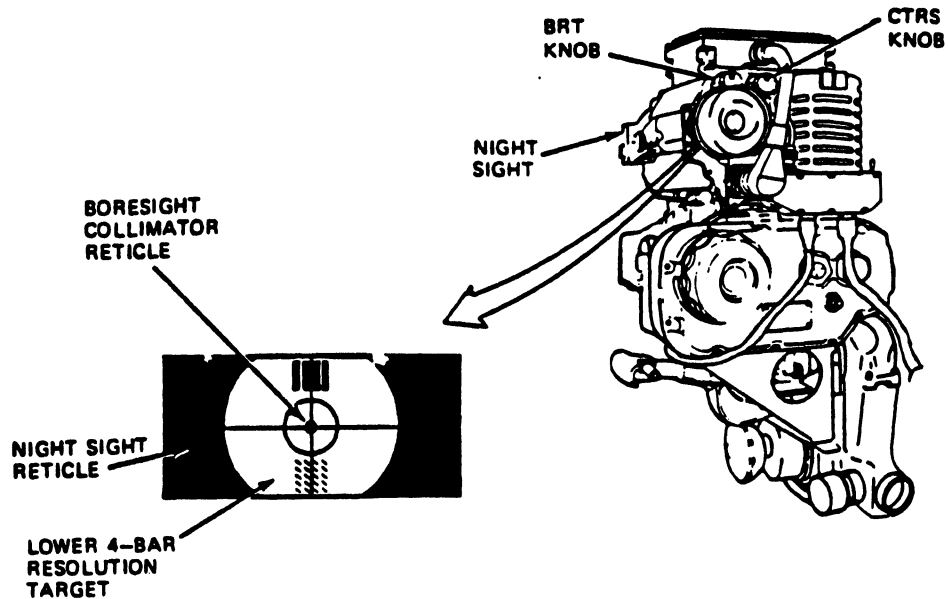

Fig 3-31. Night sight controls, night sight reticle, collimator reticle, lower 4-bar resolution target.
Step 3. Set field-of-view selector to WFOV on the night sight, look into the eyepiece, and adjust BRT and CTRS controls for the best image of the boresight collimator reticle (fig 3-31).